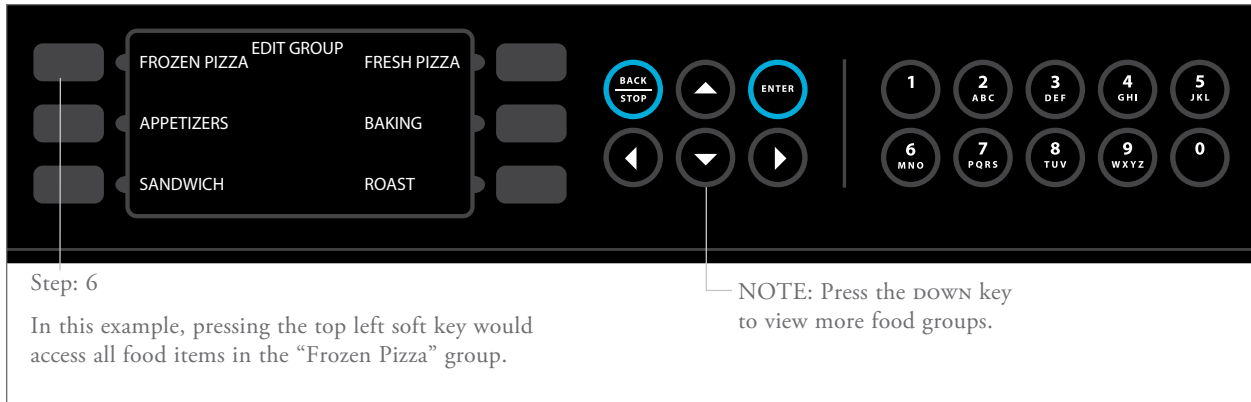

FIGURE 18: Modifying Recipes – Step 6
6. Select the food group that contains the item to be modified (Figure 18).